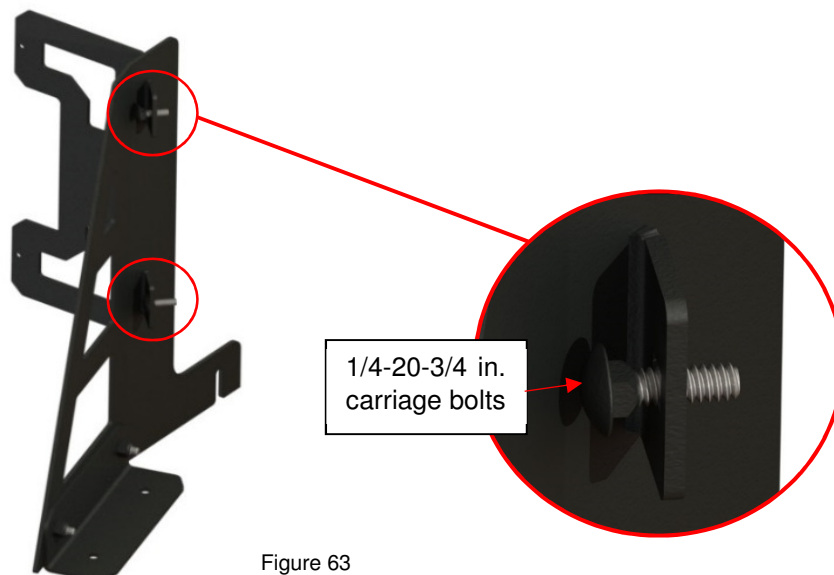

Figure 63
- 3) Insert a side support in the slots of the post bracket and insert 1/4-20-3/4 in. carriage bolts in both holes. (Figures 62 and Figure 63)
- 4) Repeat for all four sides supports. Ensure both brackets are installed as shown in Figure 63.